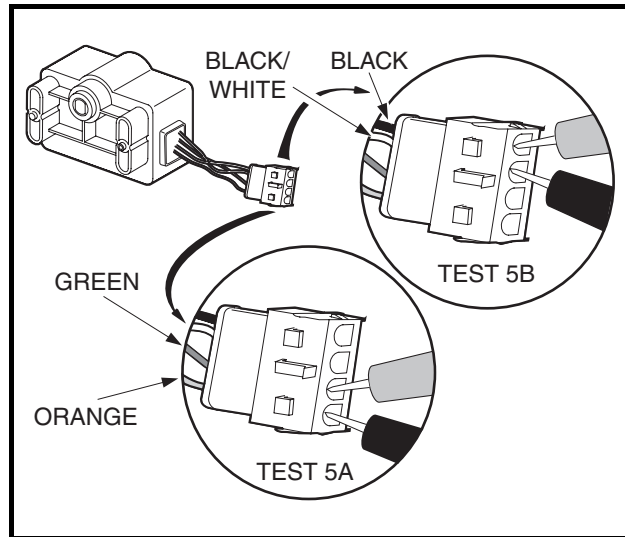

Figure 11-14 GCOR
3. Set the multimeter to 200 ohms. Separate the electrical connector and place the red (+) probe on the green wire pin of the limit switch and place the black (–) probe on the orange wire pin of the limit switch (**Figure 11-14, Page 11-18**).
4. With accelerator pedal in fully raised position, there should be continuity. With accelerator pedal pressed, there should be no continuity. If either reading is incorrect, replace the GCOR (**Figure 11-14, Page 11-18**).